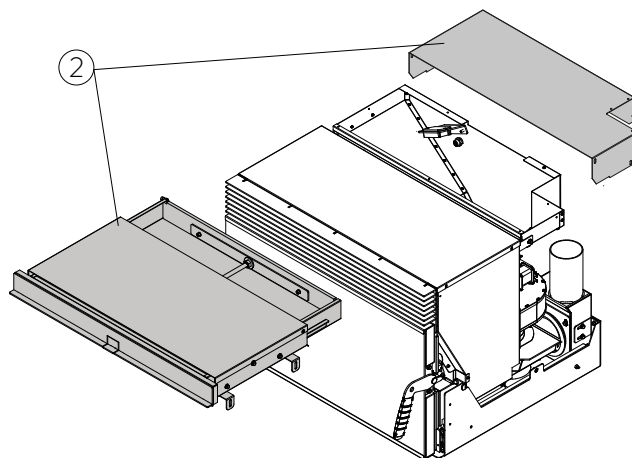

fig. 6.4.2
- B) Front loading drawer for version with air outlet on the front "2" (fig. 6.4.2)